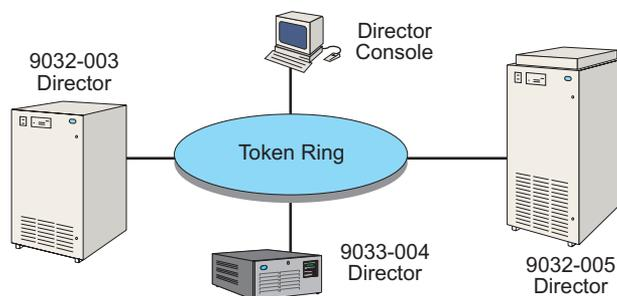

Figure 24. Director Console Application on a Dedicated PC
1. The recommended platform is a dedicated IBM PC with appropriate hardware and software (Figure 24).